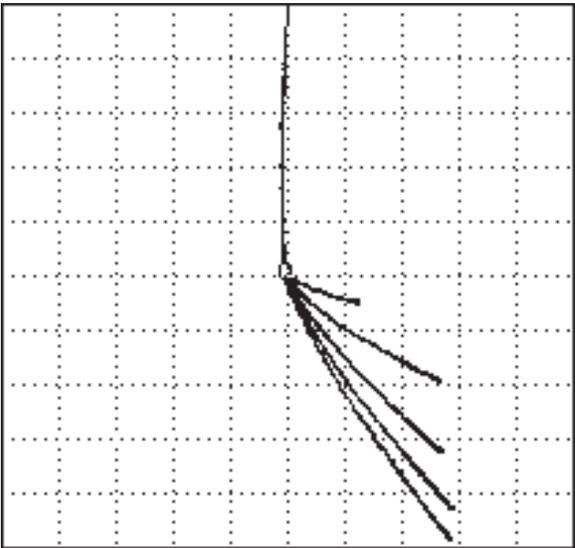

Figure 4-1. Conductivity Curve
7. Touch the probe to the middle of each of the six samples on the conductivity sample. The display should look similar to **Figure 4-1**.